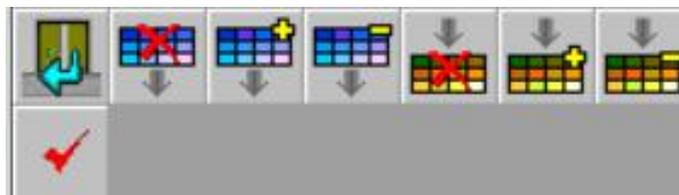

Figure 4-137
① "Change Color" displays multiple colors selected from a defined pattern.
② "[To]" replaces the selected color with the desired color or colors, which can be obtained from Patterns, Color Panel and Ponpane Panel.
3. The subcommand icon area displays the Multi to Multi subcommand (Figure 4-137):